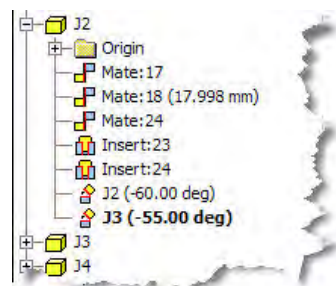

Figure 6 - Overridden constraint shown in bold
7. You will also notice that the constraint in the browser (or the part name itself in the case of a component placement or representation override) have become bold. This is to allow you to easily identify which parts or constraints have been overridden. (Figure 6).